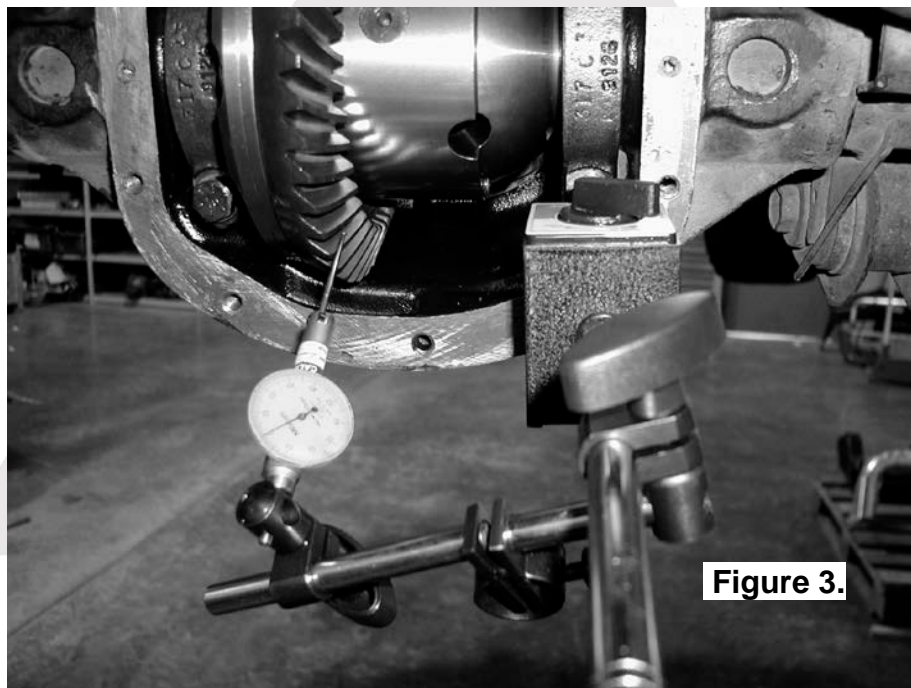

Figure 3.
- ☐ Set a depth indicator on one of the ring gear teeth as in figure 3.